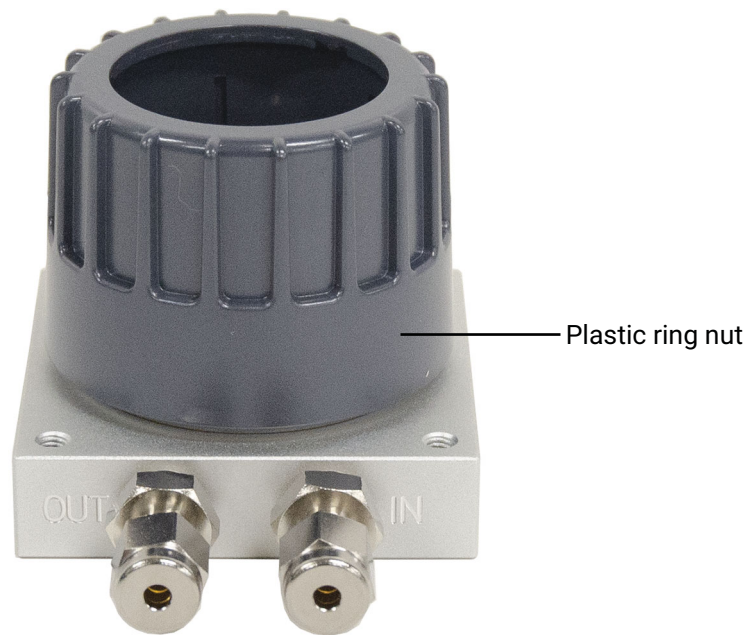

Figure 24. Remove the plastic ring nut
- 1 Unscrew the plastic ring nut from the top of the connecting unit (**Figure 24**).